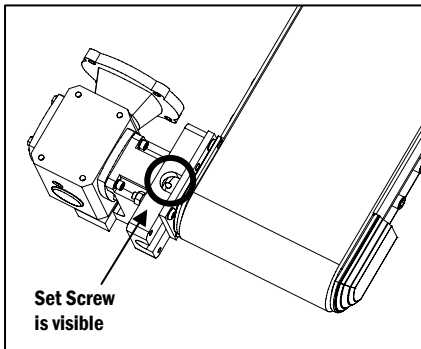

Figure 5
- d. The Set Screw in the Tapered Coupling Half should be visible through the top opening in the Casting (**Figure 5**). Using a 3/32" Allen Wrench, tighten the Set Screw to secure its position on the Key.